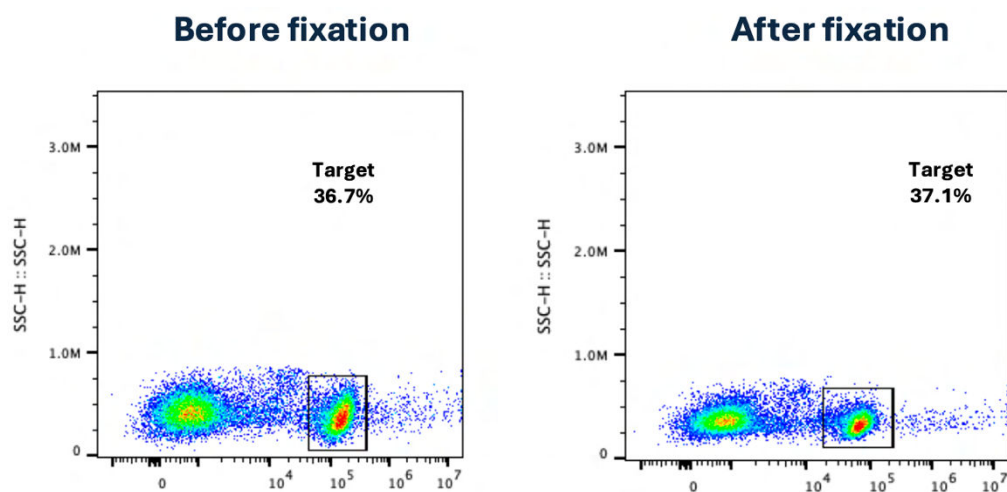

Figure 2. Representative example of a target exhibiting strong S/N ratio performance before and after fixation
- 1) Clear separation of the stained target antibody(ies) signal from unstained and isotype control populations (see Figure 2 below).